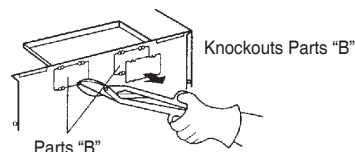

Figure 14
3. Use side cutters or thin snips to cut and remove knockouts "B" from Back plate. Discard knockouts. Be careful not to distort the plate. See Figure 14.